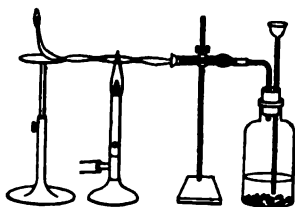

Fig. 49.
Supplies : app. in Fig. 49, arsenic-free zinc,  $\text{HCl}$ , paper for testing, e.d., lamp.
1. Arrange a gas gen. as in Fig. 49, having a  $\text{CaCl}_2$  dryer (3 or 4 in. long) and a capillary tube of hard glass, with small opening at the end.